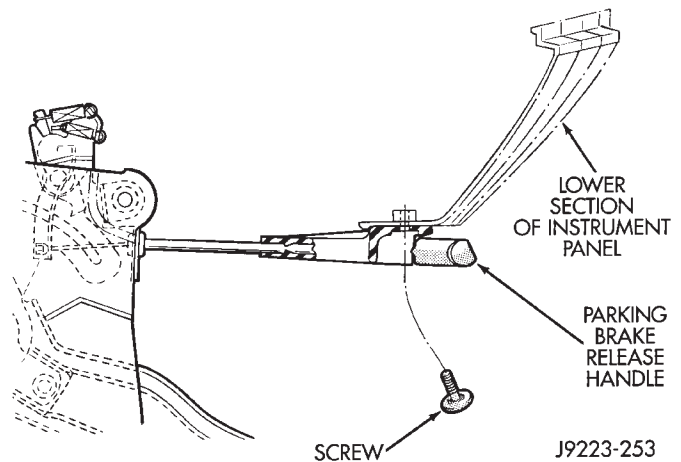

Fig. 5 Park Brake Release Handle
- (1) Remove park brake retaining screw from lower instrument panel (Fig. 5).